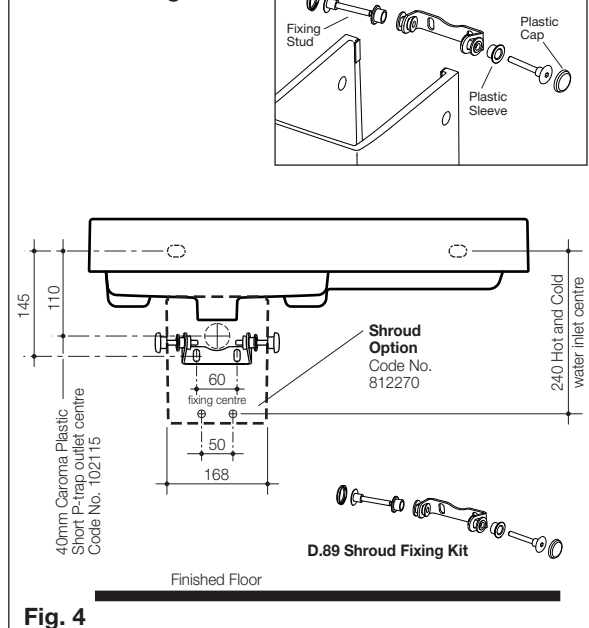

Fig. 4
- 1- Fix the Concealed Fixing Bracket (supplied) to the wall, as detailed in **Fig. 4**.